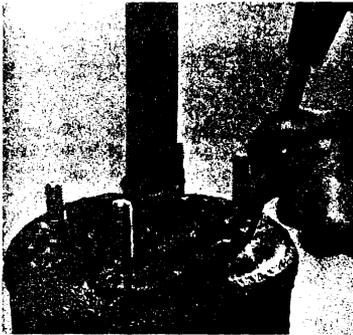

FIGURE 6
5.04 Make two indentations with a steel punch in the top of the case in the previously cleaned area. Make these indentations 1-1/4" in from the case edge and spaced a few inches apart. (Figure 6)